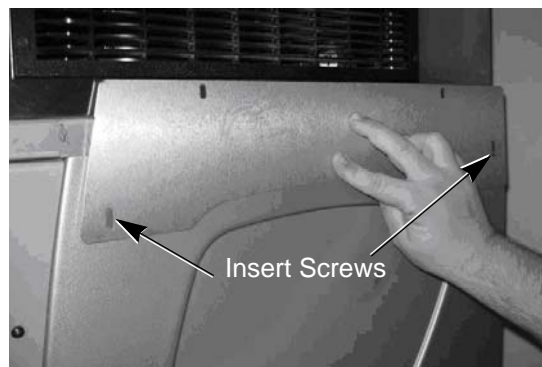

Figure 11
5. Place bracket as shown then re-install the black screws as shown in Figure 11, that were removed in Step 1.